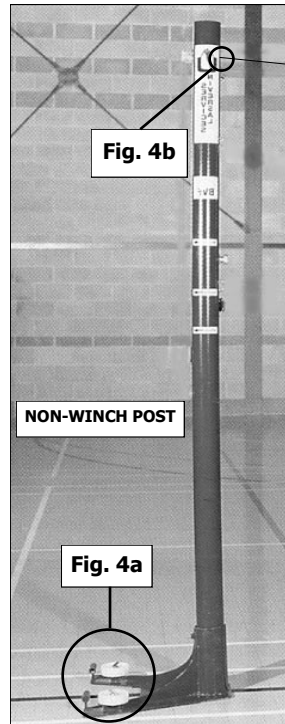

Fig. 4b
6. Set height adjustment to manageable height and attach head line on net to **NON-WINCH POST** (Fig. 4b). Unfurl net and pass top wire through the slot in the winch post, across pulley wheel and down to the winch connection (Fig. 5a).